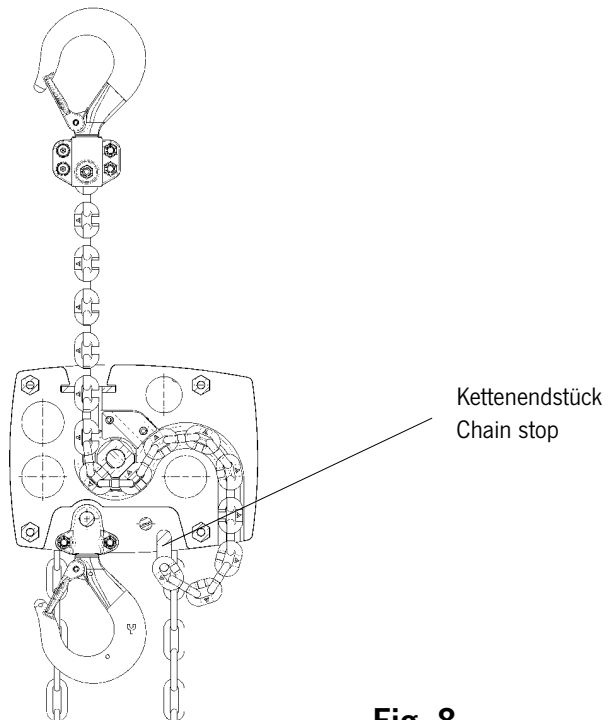

Fig. 8
- Do not use the chain stop as an operational limit device (Fig. 8).
The chain stop must be connected to the free (idle) chain strand (Fig. 8).
The load chain has to be installed according to illustration (Fig. 8). Hereby the welds on the standing links must face away from the load sheave.